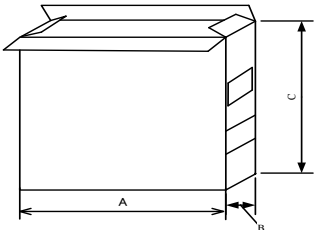

Fig.10.2.3-3
- a). Inner box please refers to Fig.10.2.3-3and Table 10.2.3-1
- b). Marking Label on inner box(see Fig.10.2.3-4)
- 3)Marking on outer case (see Fig.10.2.3-5~7):